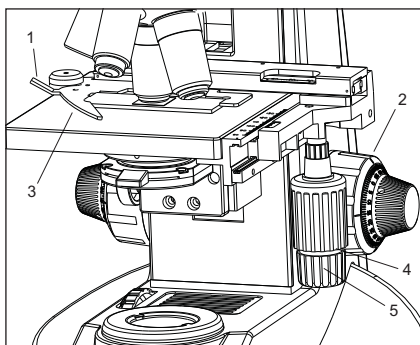

Fig. 16
Place the specimen gently on the stage. If the bow-shaped lever (3) is returned with a strong force or the control knob (1) or the bow-shaped lever is released in the middle, the slide glass may be broken. See figure 16.
1. Rotate the coarse adjustment knob (2) in anticlockwise direction to fully lower the stage.
2. Open the bow-shaped lever (3) outward by pulling lever handle (1), place the specimen by sliding the specimen glass plate(s) on the stage from the front toward the rear.
3. After positioning your specimen slides, return the bow-shaped lever (3) gently by slowly releasing control knob (1).
4. Rotating the upper co-axial knob controlling the Y-axis movement (4) moves the specimen in the vertical direction. Rotating the lower knob which is the X-axis movement control Knob (5) moves the specimen in the horizontal direction.